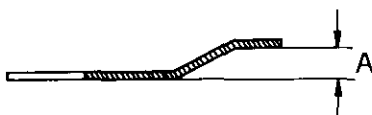

Fig. 7-4
- 2) Measure height of spring as in Fig. 7-4 and if it is less than "A" mm, replace by new one. (Refer to Table 7-4).